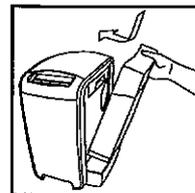

Fig. 36
- Re-insert the water tank into the air washer basin (Fig. 36).